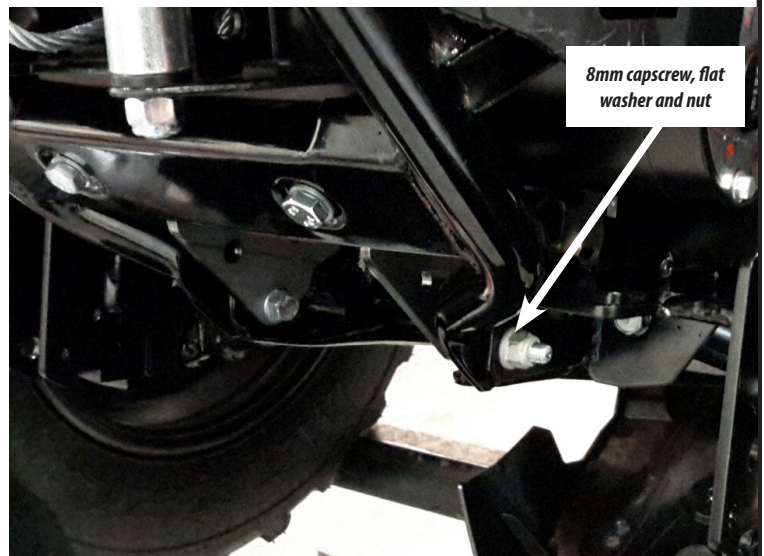

Figure 6
5. Remove two lower bolts from brushguard as shown in Figure 6. You will be using holes to fasten weldments.